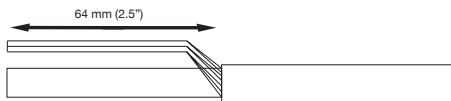

Figure 5
- Unbraid the ground braid back to the outer jacket and twist it to one side to form a pigtail on each cable. (see Figure 5)